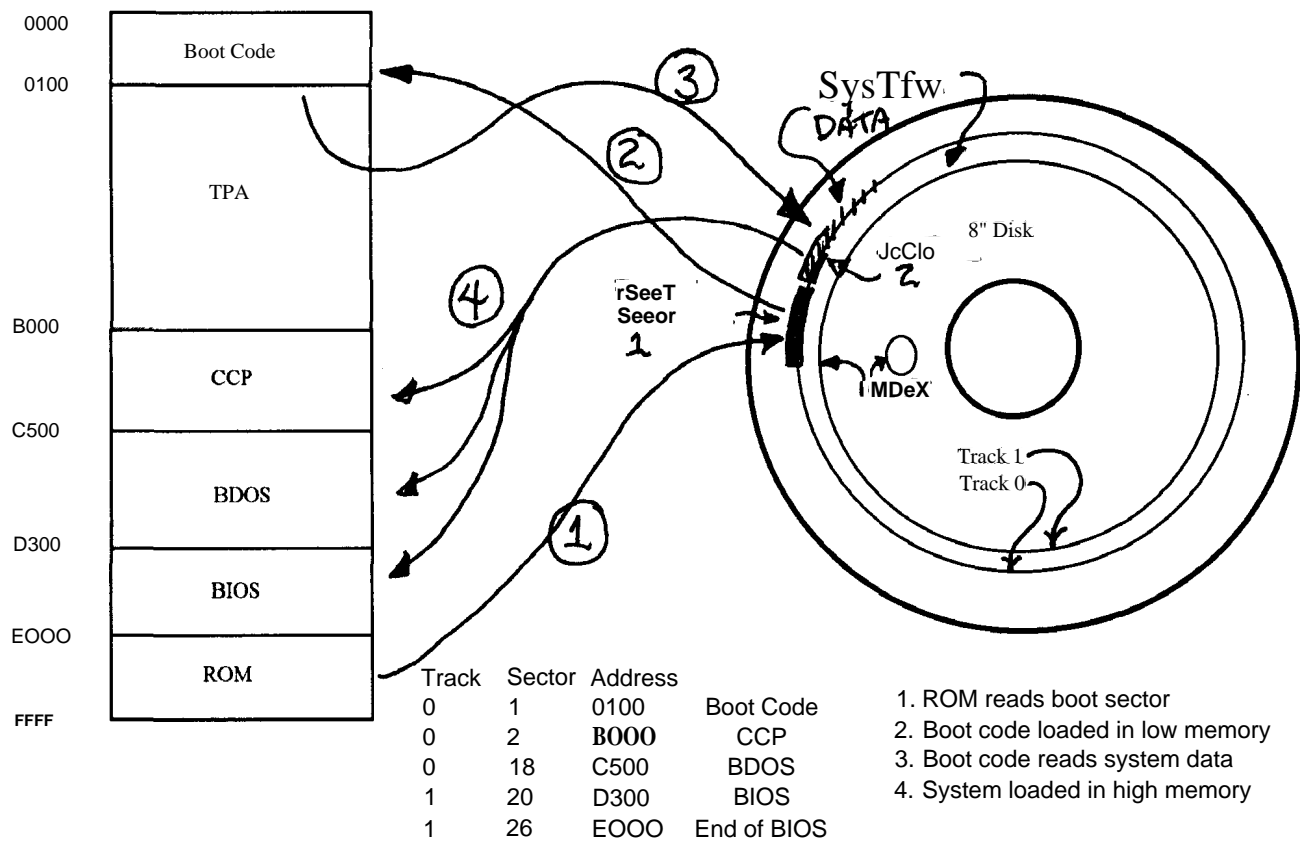

Figure 1: The boot-up process, with representations of code in ROM and the sequence of system code on disk.
For most systems, there is a small bit of ROM (read-only memory) buried on some card that is ‘jumped’ to at power-up or reset (see figure 1). For our purposes, this code eventually loads in some “boot” code from a floppy diskette, which will in turn read in the “system” code on the disk containing CP/M and the BIOS that is particular to your system. Because the first track of the disk (track 0) is the easiest to find, the boot
code is contained on track 0, sector 1. The system code will follow, on the rest of the sectors of the first track and for all the sectors of the second track. Figure 1 shows a layout of these two tracks for an 8" SSSD diskette. (Hint: different manufacturers may use slightly different schemes! Use DU (See Sidebar) to get familiar with how **YOUR** boot tracks are laid out!) The boot code in the first sector is read by the ROM (1) into a convenient memory area (usually address 0) (2) and executed. The boot code in turn reads the rest of the sectors (3) into the high end of memory (4) and then jumps to the CP/M starting address (of the code just read in) to initialize and run CP/M. (Hint: some systems follow this sequence with the load of a more complicated BIOS from a file.)